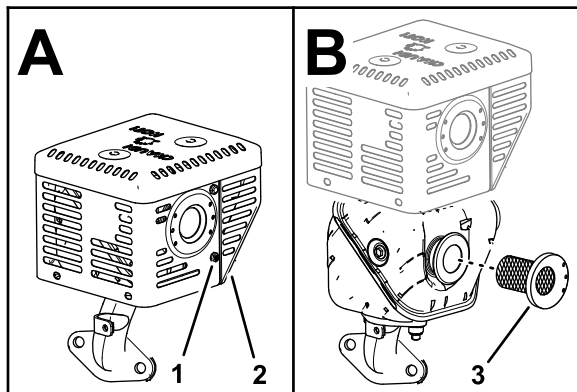

Figure 84
- Remove the screws that secure the heat shield to the muffler, and remove the heat shield (Figure 84).
- Remove the spark arrester screen and clean it (Figure 84).
- Assemble the spark arrester screen to the muffler (Figure 84).